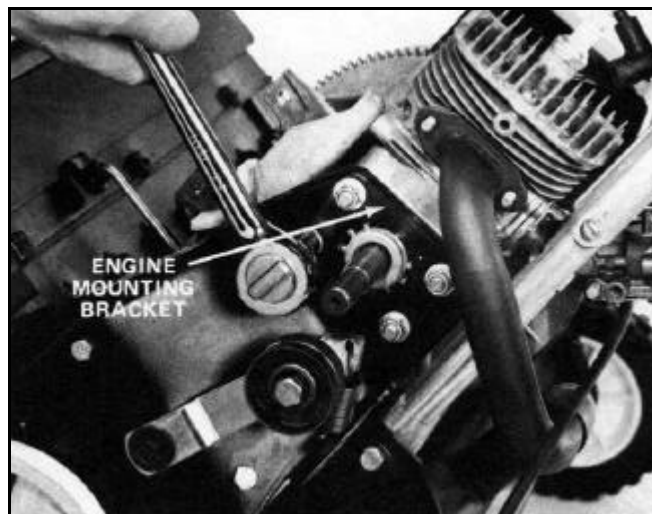

Figure 39 0217-022
13. Lastly, remove the four mounting nuts retaining the engine to the engine mounting bracket on the crankshaft side (Figure 39).